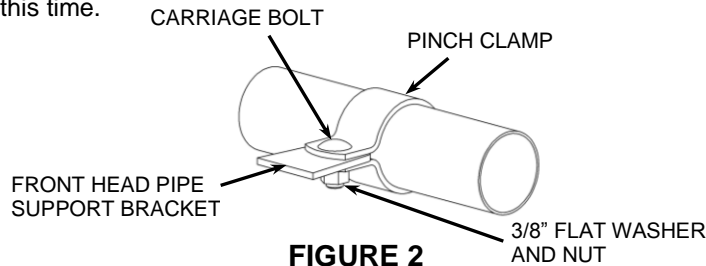

FIGURE 2
8. Slide the supplied pinch clamp over the front headpipe making sure the square hole on the clamp is facing up and towards the inside. Position the clamp over the support bracket so that the pinch clamp captures both sides of the bracket. See **FIGURE 2**. Insert the supplied 3/8" carriage bolt through the top of the pinch clamp and support bracket. Install the 3/8" flat washer and nut onto the bottom of the carriage bolt but **DO NOT TIGHTEN** at this time.